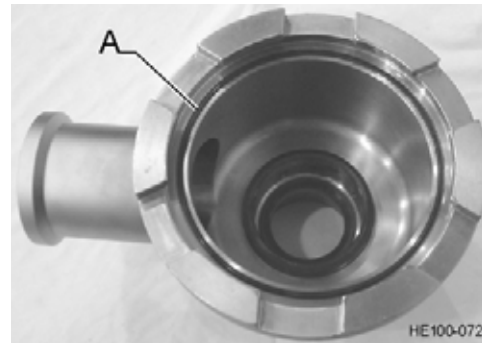

Figure 29 - Drive End Head O-ring
9. Make sure O-ring (See Figure 29, Item A) is installed in drive end head.